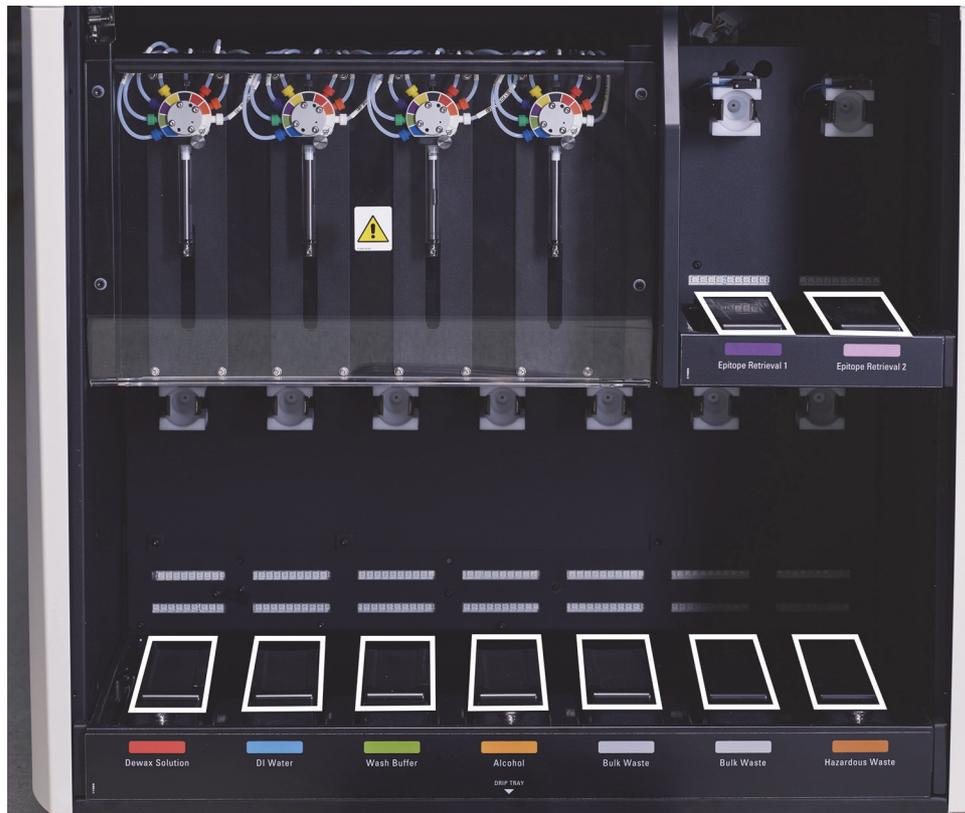

Figure 137: BOND-III bulk container drip trays showing the weight sensor covers
3. Remove the black covers that protect the weight sensors of each bulk container (see Figure 137). Wipe each cover with a cloth or gauze dampened with a 70% alcohol solution.